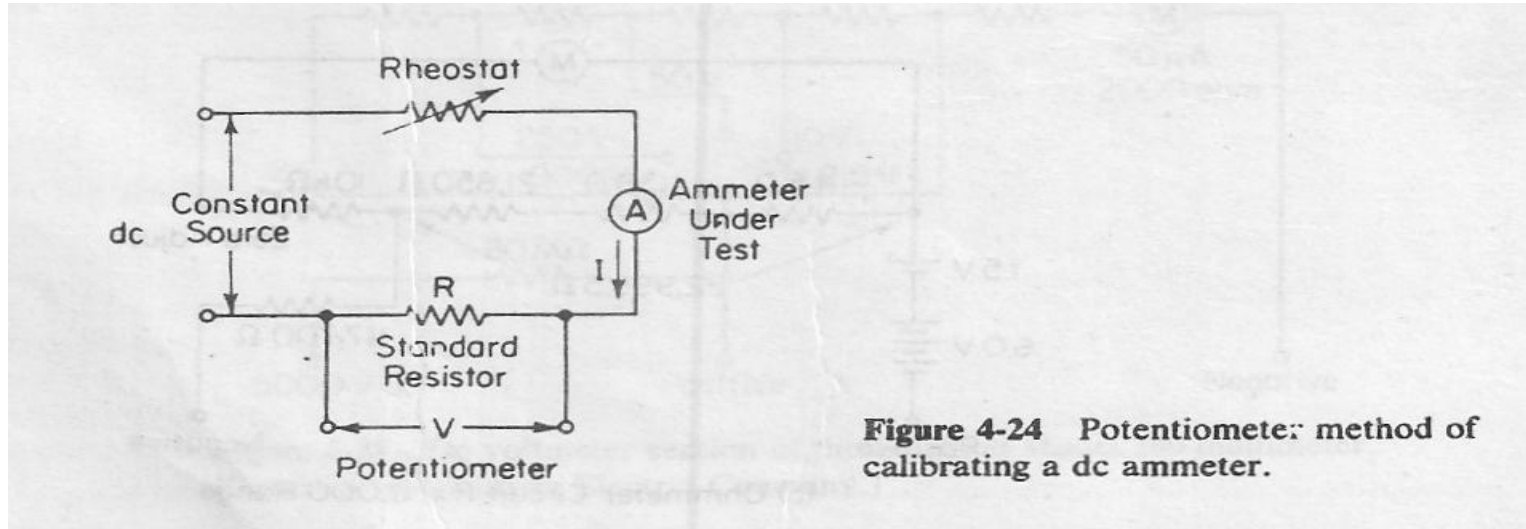

Figure 4-24 Potentiometer: method of calibrating a dc ammeter.
- Calibration of a dc ammeter can most easily be carried out by the arrangement of Fig. 4-24.